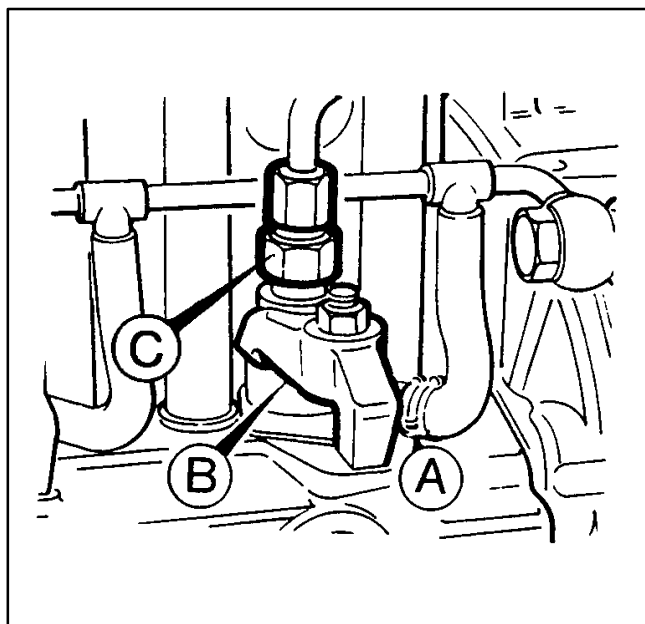

FIGURE 8-39. FUEL PUMP
1. Back the fuel hose clip (Figure 8-39, Item A) up the hose and pull the hose off the pump.